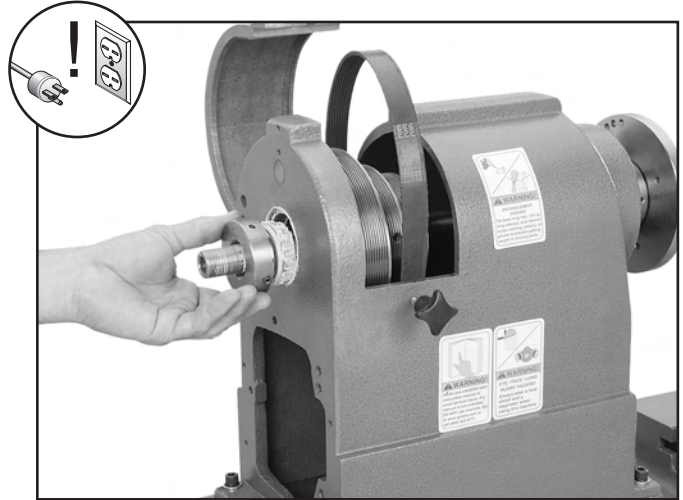

Figure 66. Outboard bearing and spanner nut reinstalled.
17. Thread the spanner nut (see **Figure 66**) onto the outboard spindle until it contacts the outboard bearing.